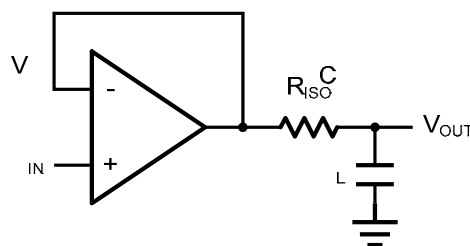
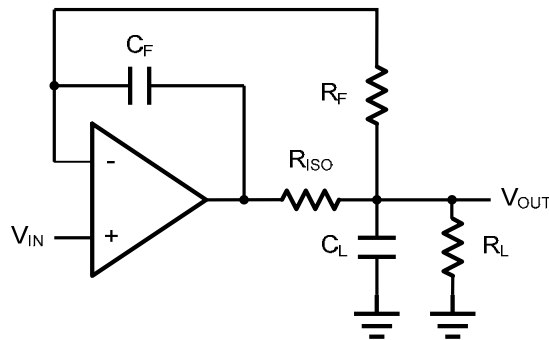

Figure 2 Indirectly Driving a Capacitive Load Using Isolation Resistor
Figure 3. Indirectly Driving a Capacitive Load with DC Accuracy
The HMCP600X family is optimized for bandwidth and speed, not for driving capacitive loads. Output capacitance will create a pole in the amplifier's feedback path, leading to excessive peaking and potential oscillation. If dealing with load capacitance is a requirement of the application, the two strategies to consider are (1) using a small resistor in series with the amplifier's output and the load capacitance and (2) reducing the bandwidth of the amplifier's feedback loop by increasing the overall noise gain. Figure 2 shows a unity gain follower using the series resistor strategy. The resistor isolates the output from the capacitance and, more importantly, creates a zero in the feedback path that compensates for the pole created by the output capacitance.
The circuit in Figure 3 is an improvement to the one in Figure 2. R_F provides the DC accuracy by feed-forward the V_{IN} to R_L . C_F and R_{ISO} serve to counteract the loss of phase margin by feeding the high frequency component of the output signal back to the amplifier's inverting input, thereby preserving the phase margin in the overall feedback loop. Capacitive drive can be increased by increasing the value of C_F . This in turn will slow down the pulse response.